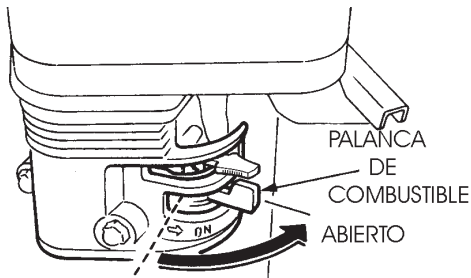

Figure 18. Engine Fuel Valve Lever (ON Position)
2. Place the engine *fuel valve lever* (Figure 18) to the "**ON**" position.